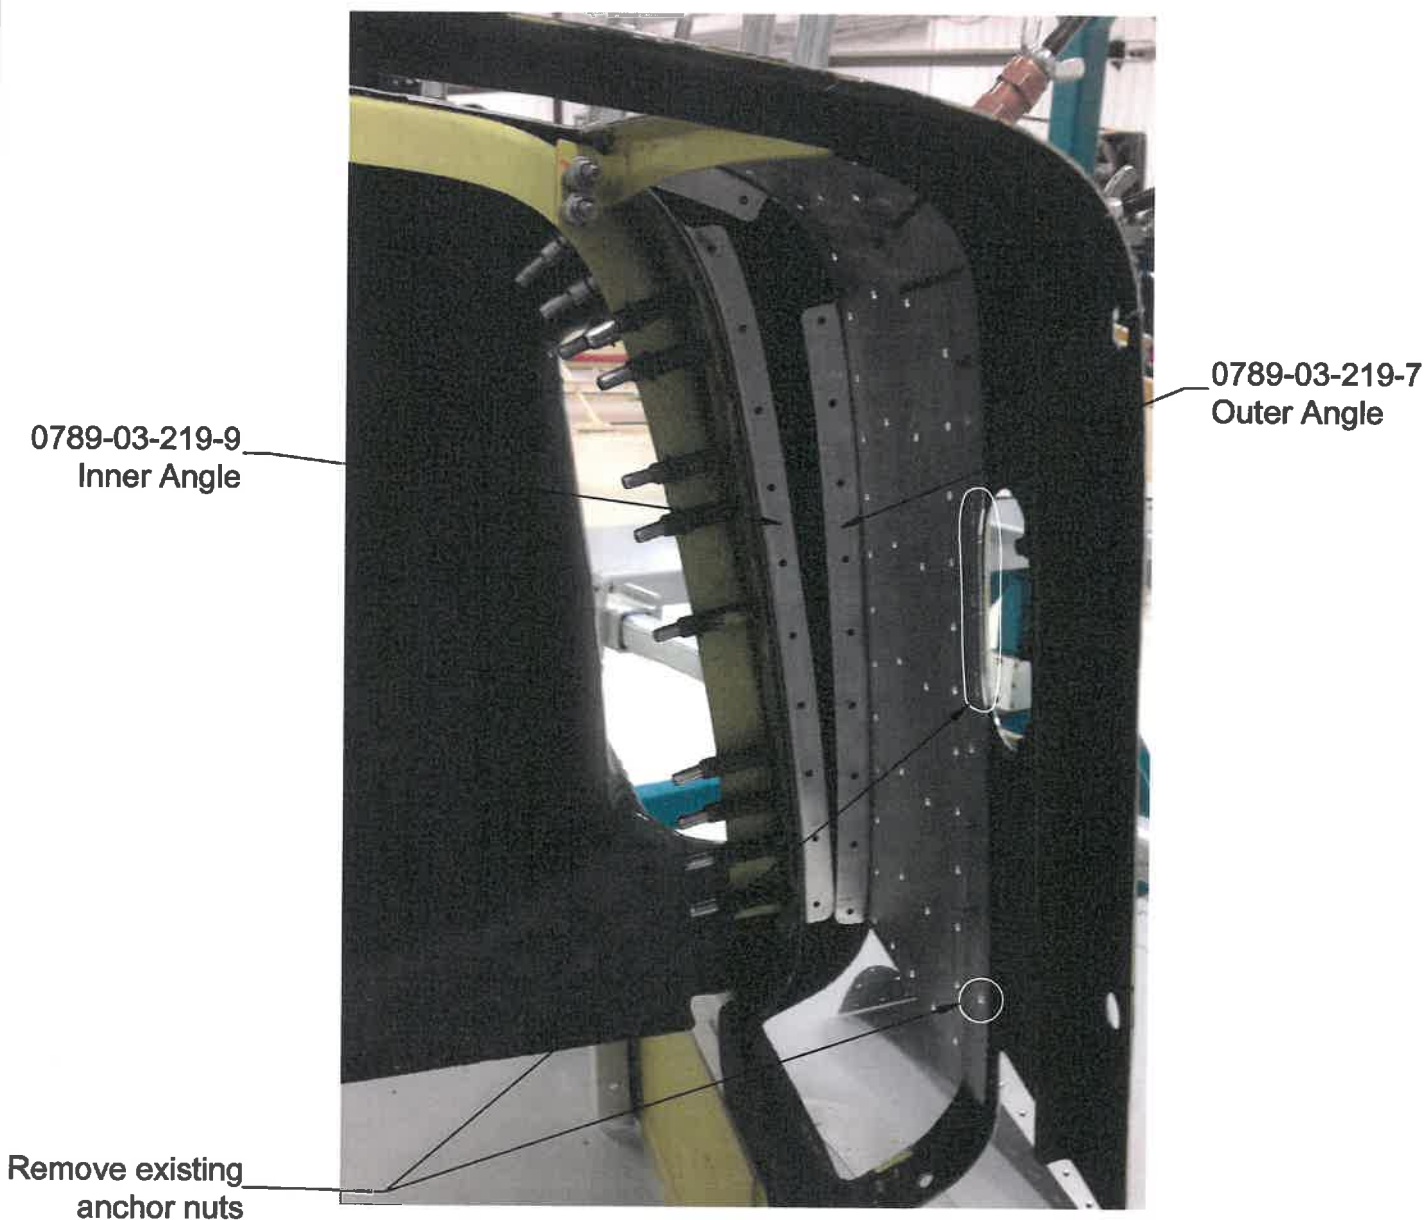
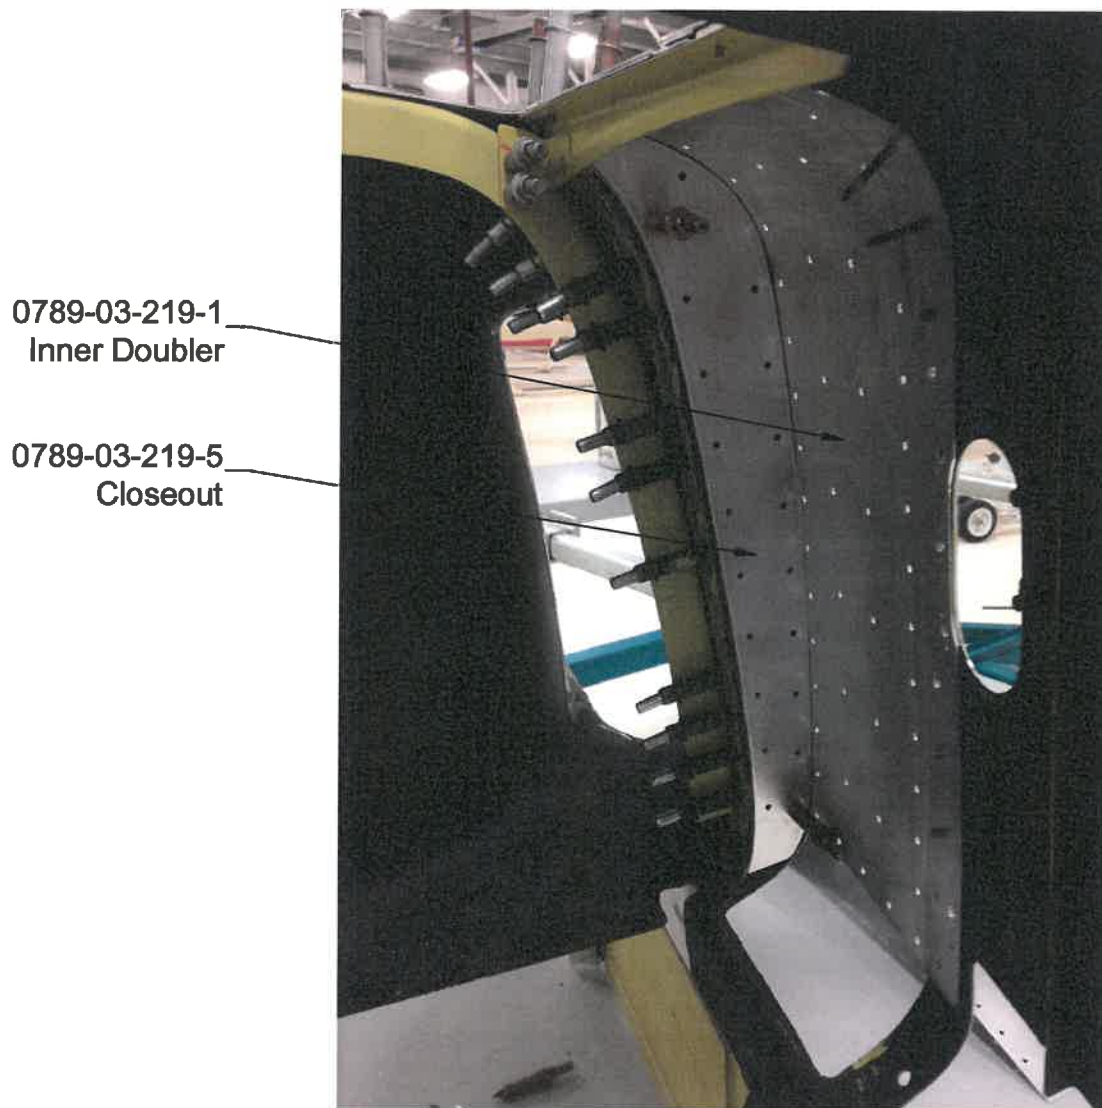

Figure 2: 0789-03-219-7/-9 Angle Installation
Figure 4: 0789-03-219-5 Closeout Installation
2. Remove existing anchor nuts in locations specified on Figure 2.
6. Locate 0789-03-219-7 Outer Angle and 0789-03-219-9 Inner Angle to obtain best fit and align with edges of skin cutout per Figure 2.
7. Transfer drill $\phi 0.129$ " and $\phi 0.194$ " holes from aircraft outer skin to 0789-03-219-7 Outer Angle. Transfer drill holes from aircraft inner skin to 0789-03-219-9 Inner Angle per Figure 2.
12. Locate 0789-03-219-5 Closeout against 0789-03-219-7 Outer Angle and 0789-03-219-9 Inner Angle as shown in Figure 4.
13. Pitch in $\phi .098$ " perimeter holes as required in 0789-03-219-5 Closeout, maintaining edge distance of 0.25" and 0.8"-1.3" pitch as shown in Figure 4.
14. Transfer drill $\phi .098$ " holes from 0789-03-219-5 Closeout to 0789-03-219-7 Outer Angle and 0789-03-219-9 Inner Angle as shown in Figure 2 and Figure 4.